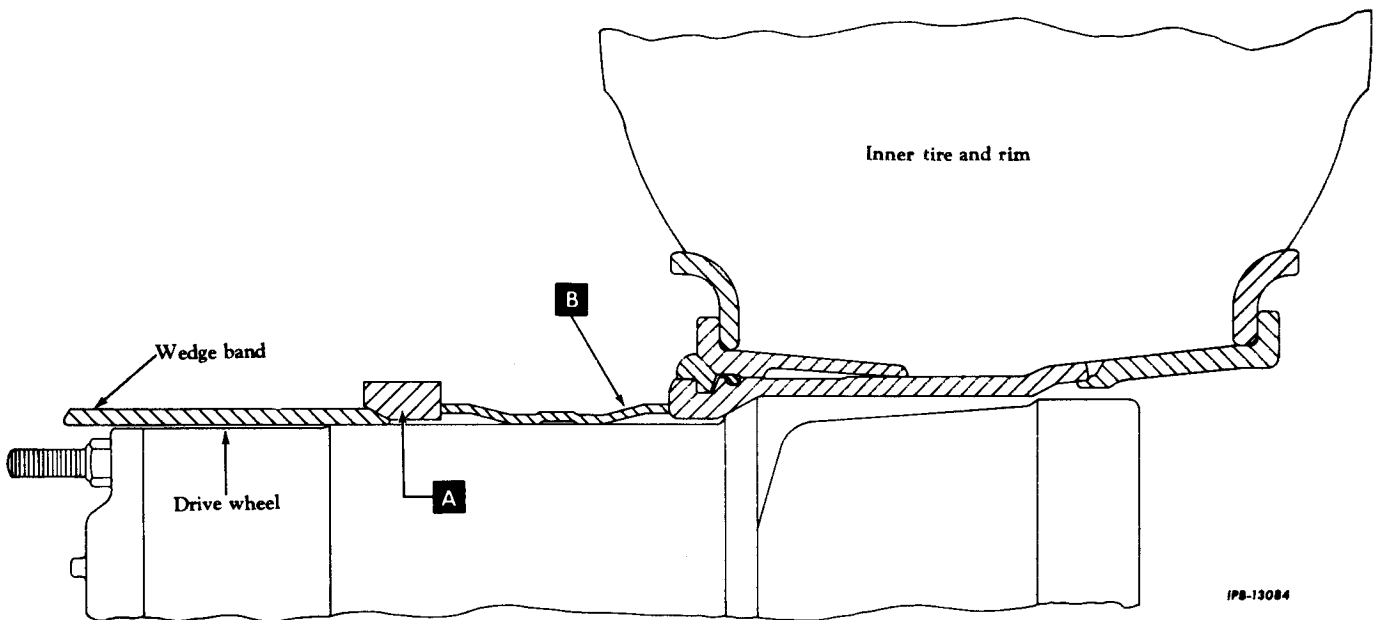

Fig. 4. Shipping Spacer Removal
d. Remove the three corks from the wedge band and replace with three 5/8" NC bolts with a minimum thread length of three inches. Tighten these bolts until the wedge band unseats then remove the wedge band. Remove the shipping spacer (A, Fig. 4).